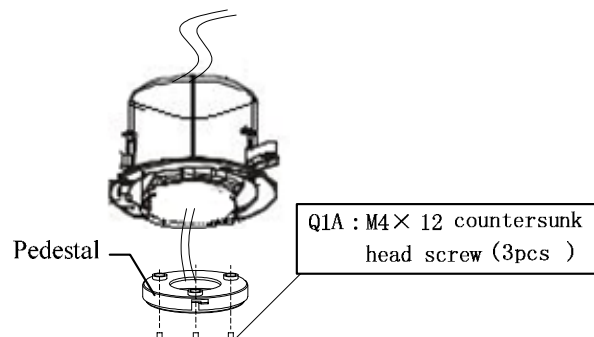

Figure 20
- 4) Fixup the “installation pedestal” with the embedded mount ( Figure 20 ) .